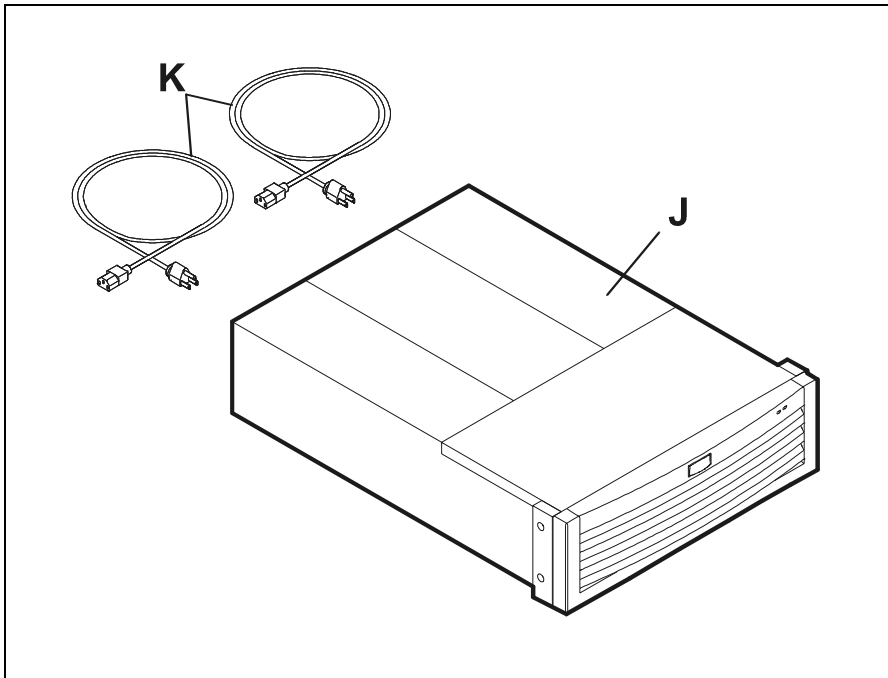

Figure 14 Disk System Contents
- Lift off the accessories box and the top of the under box, and verify the contents shown Figure 7 and Figure 14.